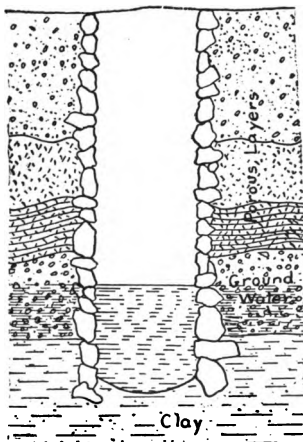

FIG. 321.—OPEN WELL
**326. Open Well.** An open well consists of a hole dug in the ground to a point that is below the upper level of the ground water (Fig. 321). Water tends to pass by capillary action to